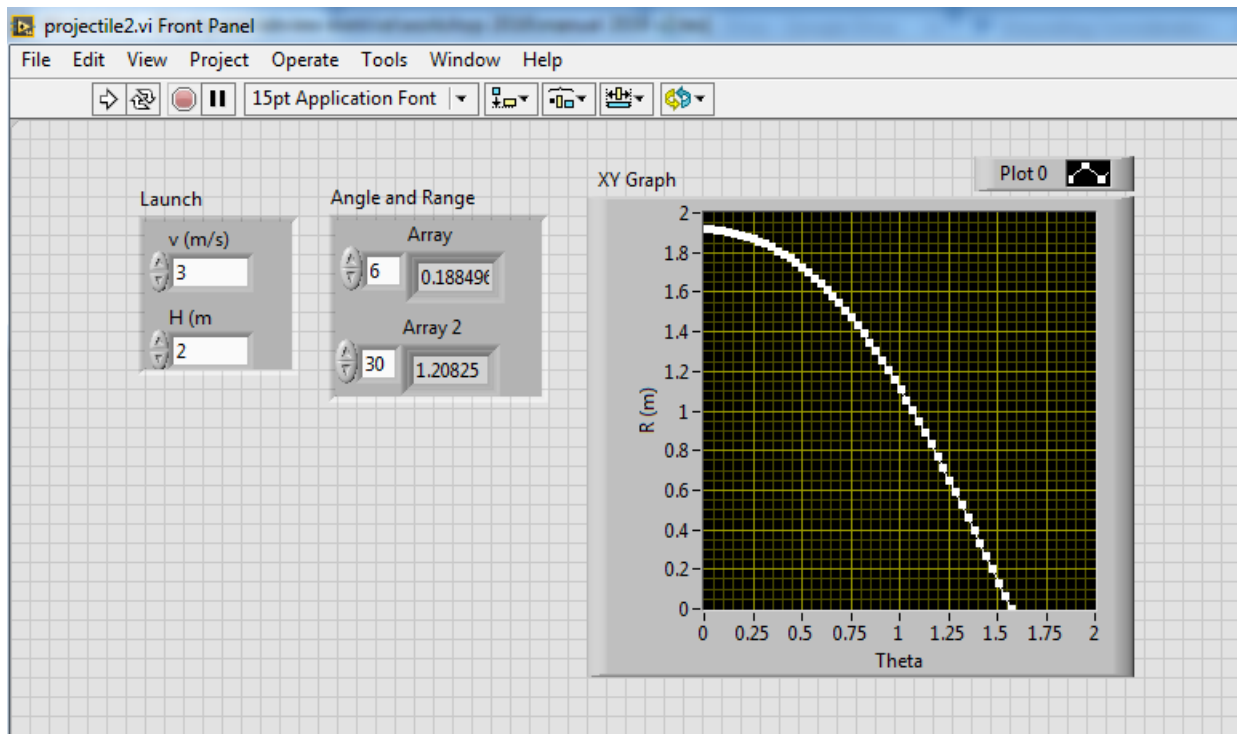

Figure 3: Desired front panel for projectile calculation.
- I like you to make a graphical program that allows you to plot the range of a projectile R as a function of the launch angle θ . The user is able to input a fixed value of the initial speed v and the height from which the object launches h . You will plot an XY graph. The front panel will look like Fig. 3. The relationship between the range and other parameters is given by,